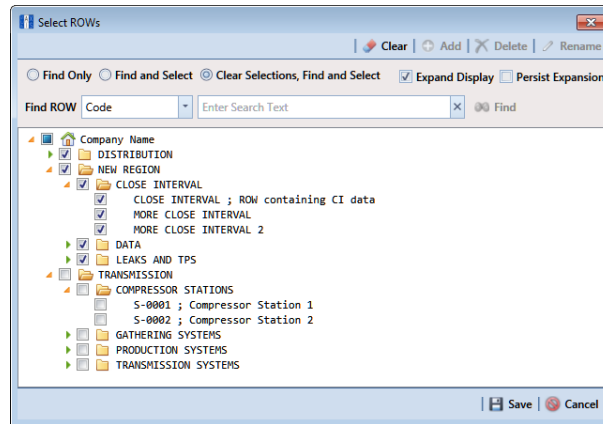

Figure 7-4. Select ROWs
- 1 Click the **Select ROWs** button  to open the *Select ROWs* window (Figure 7-4).